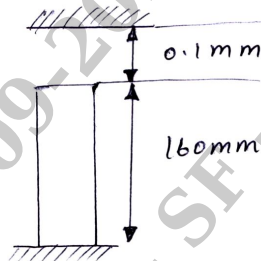

Fig.Q2(b)
- b. A copper bar of length 160 mm is placed on a rigid support in vertical position. Clearance between the upper support and top surface of the member is 0.1 mm as shown in the Fig.Q2(b). Determine: